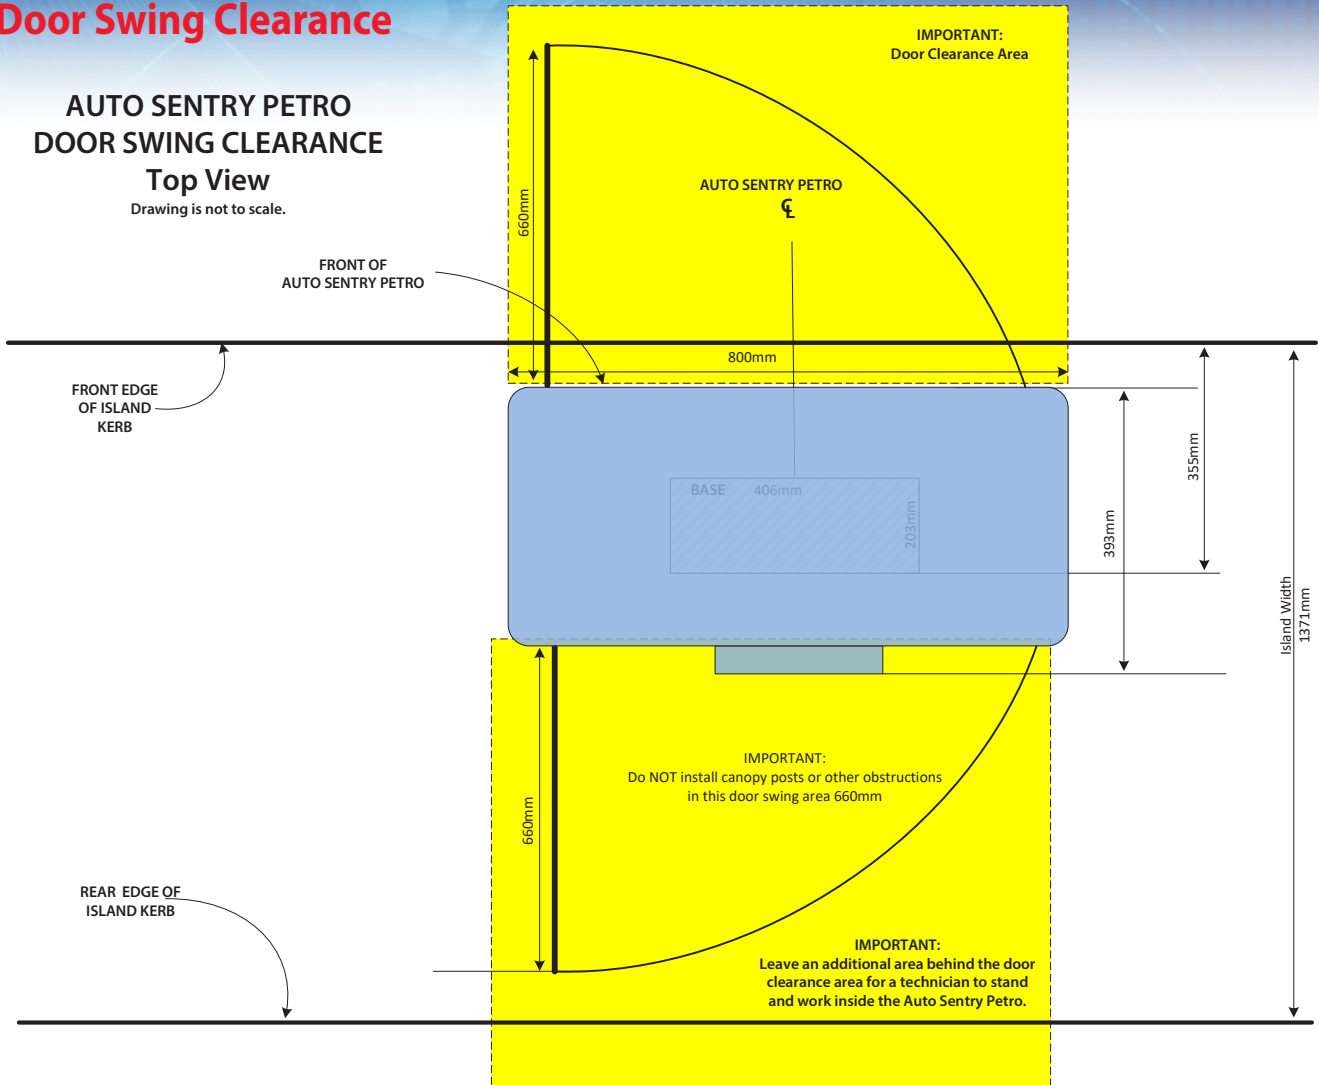

Figure 6. Door Swing Clearance
4. Tighten (4) or (8) nuts and (4) or (8) washers to the J bolts.
NOTE: If you are attaching (4) J bolts in your concrete, attach #1-4 in Figure 6. If you have (8) J bolts in your concrete, then attach #1-8 in the figure above. Using (8) J bolts is optional.